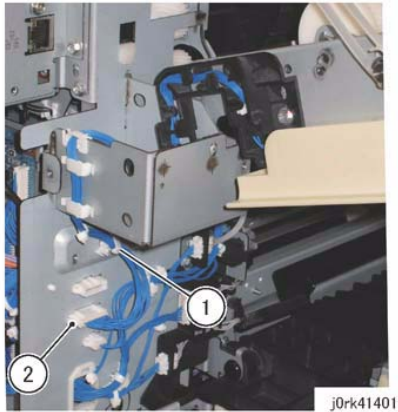

Figure 1 Disconnect the connector
4. Disconnect the connector. (Figure 1)